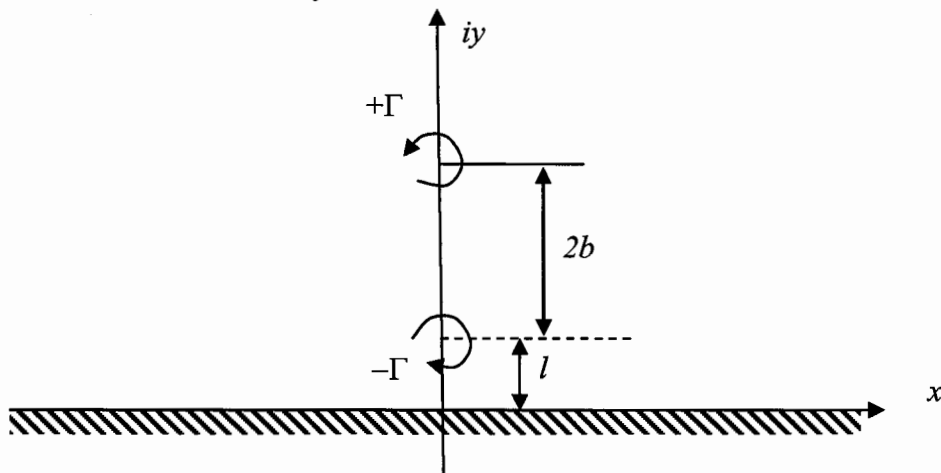

Figure 3
- (b) A vortex pair is now placed in the vicinity of a wall along the x -axis as shown in Fig. 3.